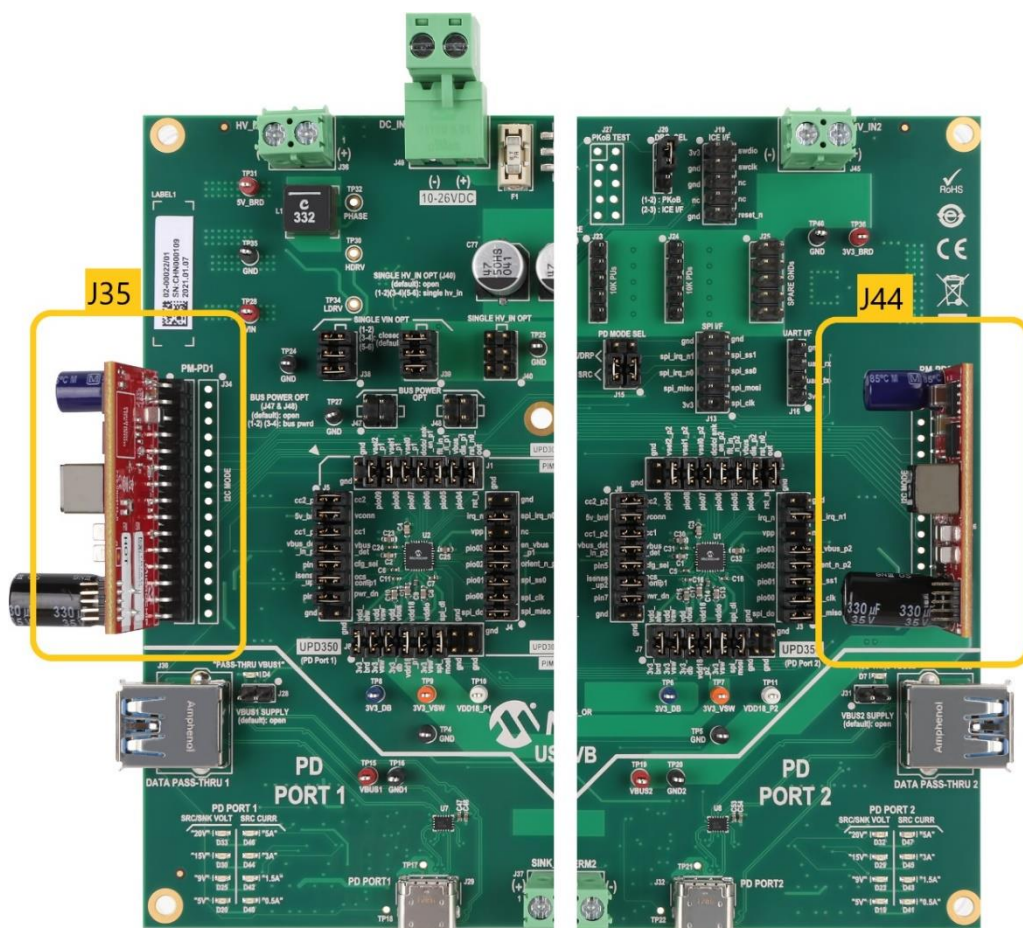

Figure 5.1 PM-PD Orientation
1. Connect PM-PD Modules to J35 and J44 of the EVB-PSF in correct orientation as shown in Figure 5.1.